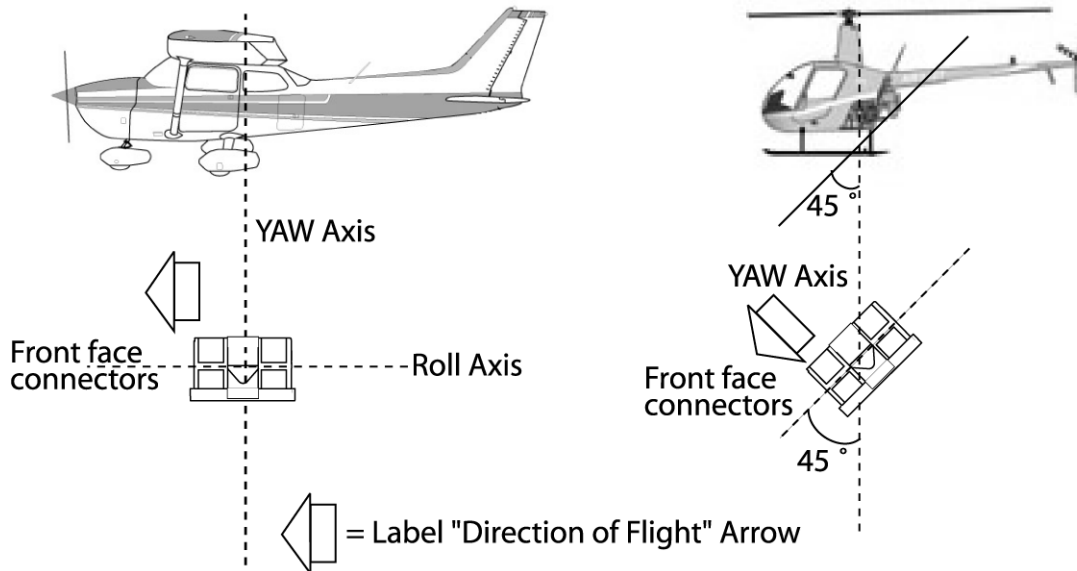

Figure 5: KANNAD 406 AF-COMPACT, axis of installation
1. Mount the transmitter on the bracket "Flight direction" arrow pointed towards the front of the aircraft (Figure 5: KANNAD 406 AF-COMPACT, axis of installation).